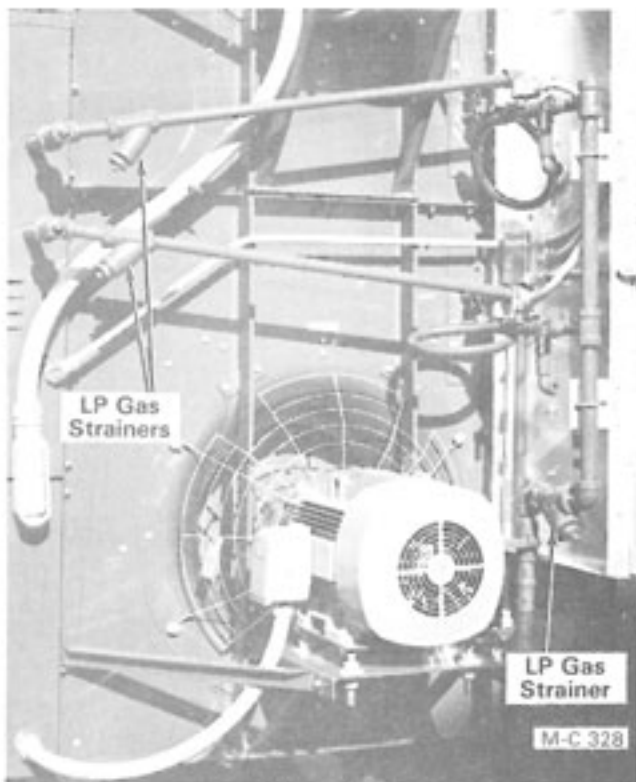

Figure 38
7. **LP Gas** - Remove the plug at the end of each strainer, see Figure 38. Remove and clean the screen in each strainer. Check flexible LP hoses for signs of fatigue, replace as necessary.